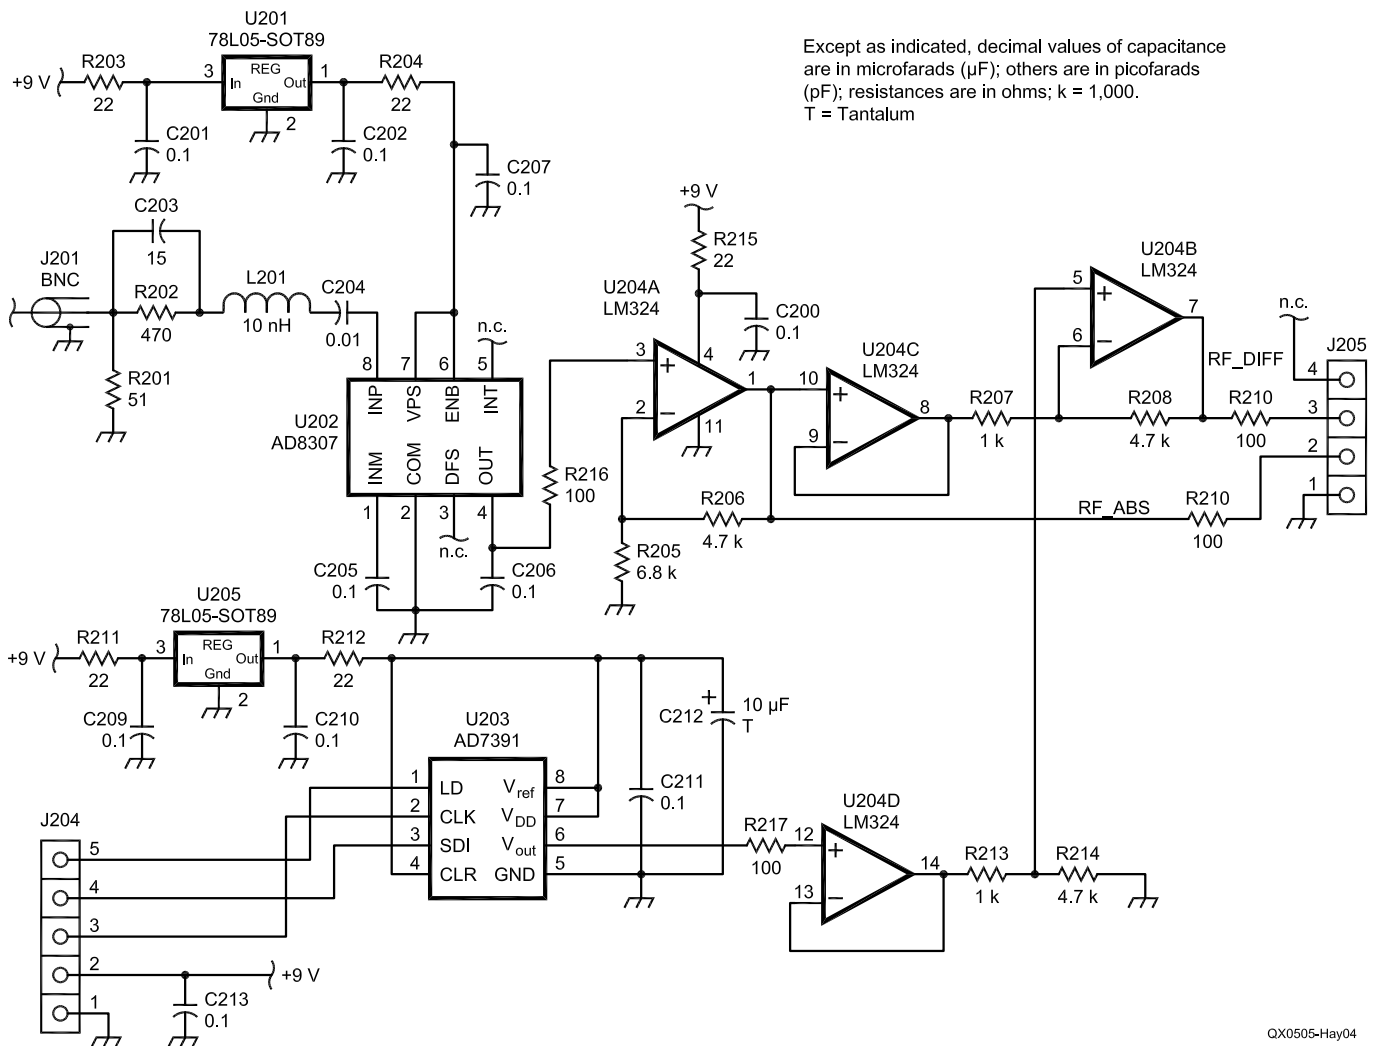

Fig 4—RF measurement module—schematic diagram.
Fig 4 shows the RF module. The log amp is the Analog Devices AD8307 in an SO-8 package. The RF input stage is virtually identical to the previous design of Hayward and Larkin, including slight equalization to level the measurement accuracy at higher frequencies. The absolute RF output is sent to a quad op amp. An AD7391 DAC provides the reference voltage for the high-precision circuitry.
Table 2—Parts list for the RF measurement module shown in Figure 4. Digi-Key part numbers (DK) are shown.